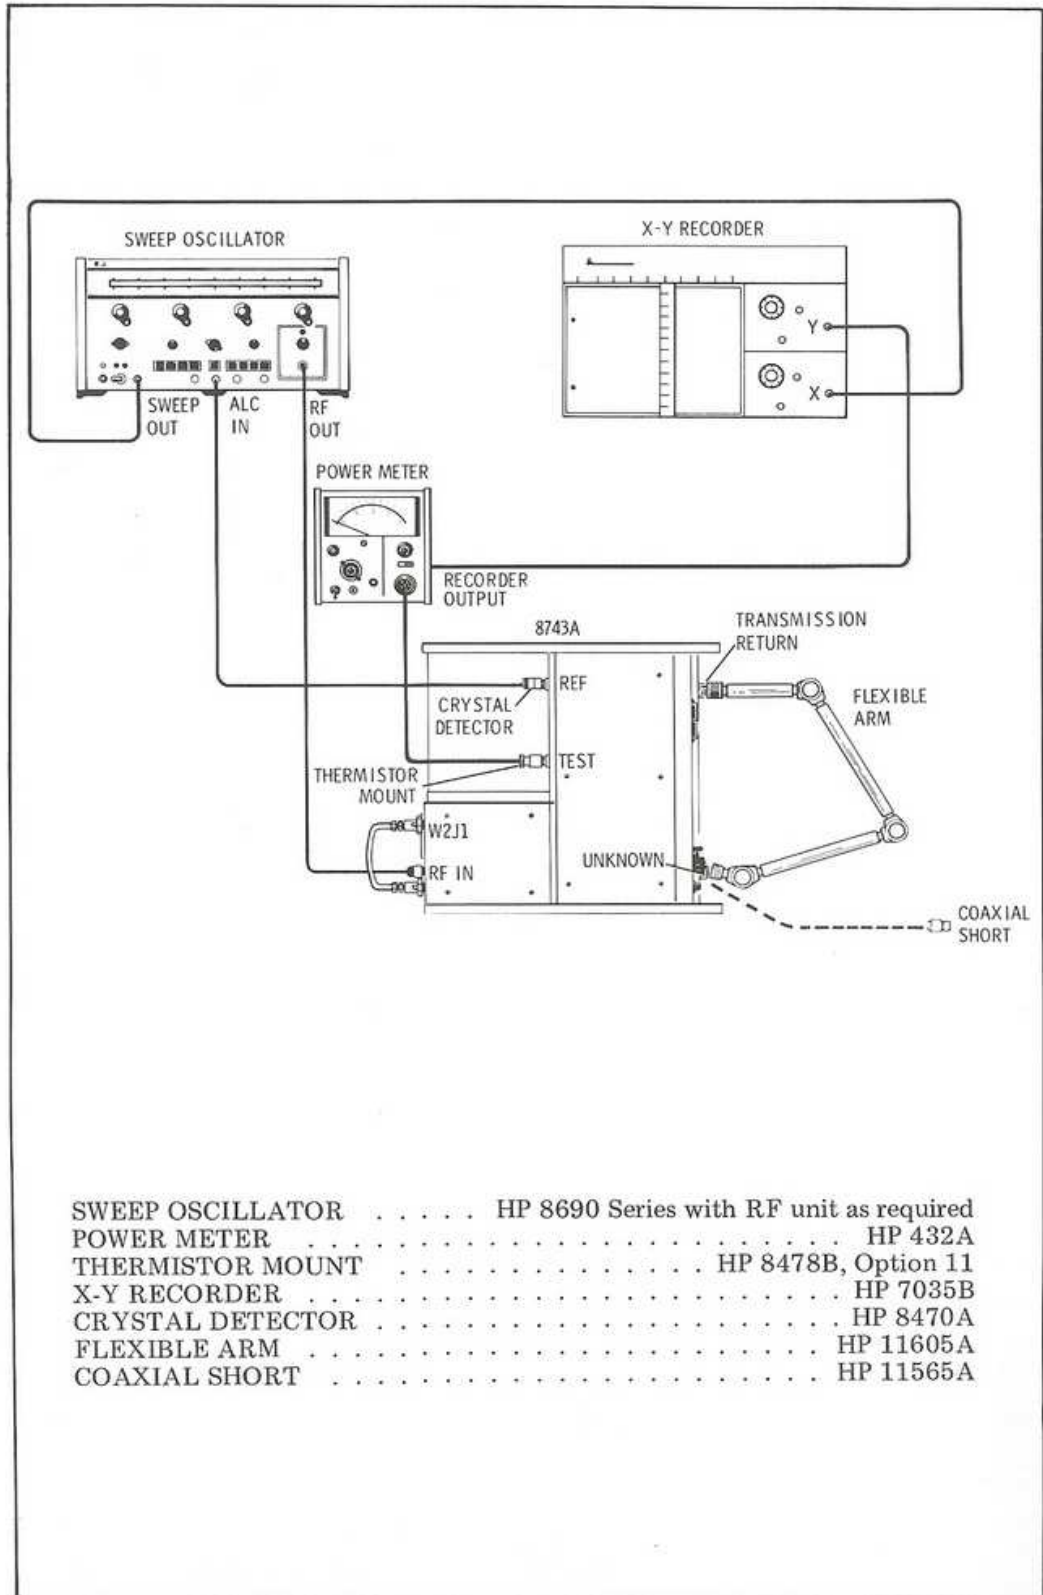

Figure 4-2. Insertion Loss Troubleshooting (Sheet 1 of 4)
9. Perform the insertion loss troubleshooting procedure in Figure 4-2. If sharp power variations occur during any check, vary the torque on each coaxial switch connector, while observing the frequency response curve, until power variation is minimum.
Connect equipment as shown in Figure 4-2. Set sweep oscillator for maximum leveled power over frequency band of interest.